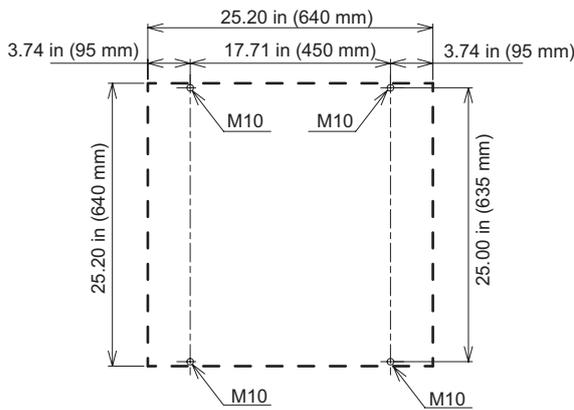

Figure 3: Hanging measurements
1. Install a 25.2x25.2 in (640x640 mm) opening in the ceiling. Refer to Figure 3 on page 14.